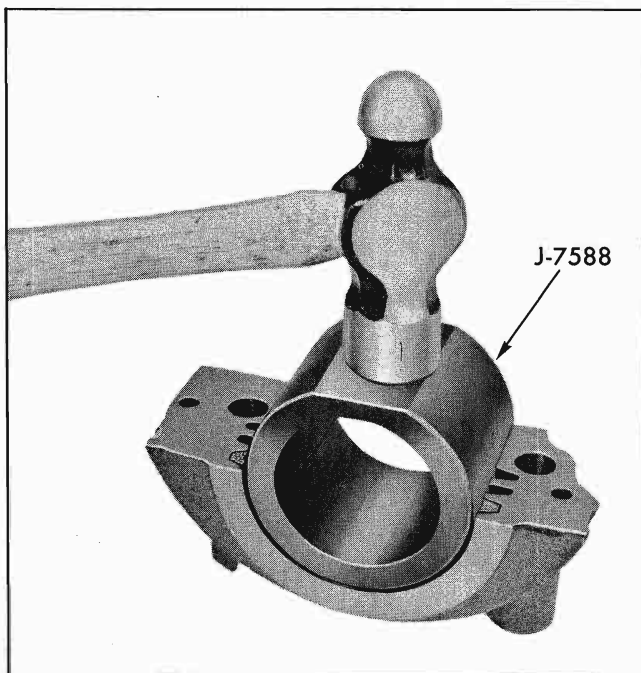

Fig. 6-82 Compressing Upper Seal in Bearing Cap with J-7588
- c. Place seal in groove in bearing cap and pack tightly with hammer and tool J-7588 (Fig. 6-82).